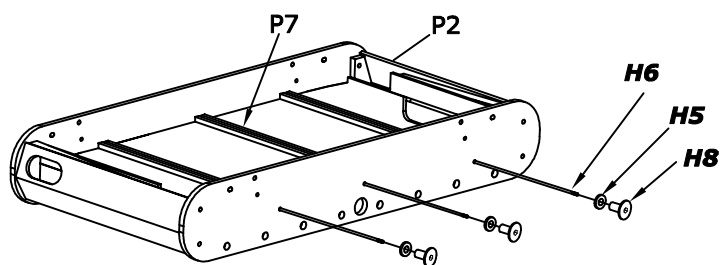

FIGURE 3
- Place the playfield support braces **P7** on the bottom of the playfield. Insert support rods **H6** through the hole in the side panel **P1** and the groove in the playfield support braces **P7** as shown in **Figure 3**. Place washers **H5** and lock nuts **H8** on each end of support rods **H6**.